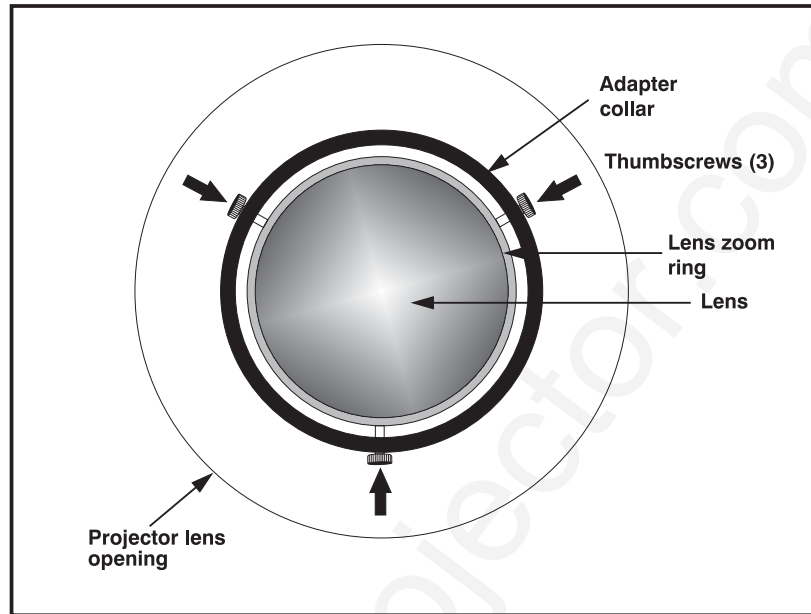

Figure 4.13. Tighten 3 thumbscrews equally
*NOTE: To remove a motorized zoom lens, loosen the 3 thumbscrews securing the zoom adapter collar around the perimeter of the lens (see Figure 4.13). Then unscrew the lens **and** pull out the adapter collar.*
- g) Gradually tighten the 3 thumbscrews equally, taking care to keep the adapter collar and lens centered with one another (Figure 4.13). The adapter collar should be securely attached to the lens when you are done, enabling the lens to move with [Lens] adjustments.